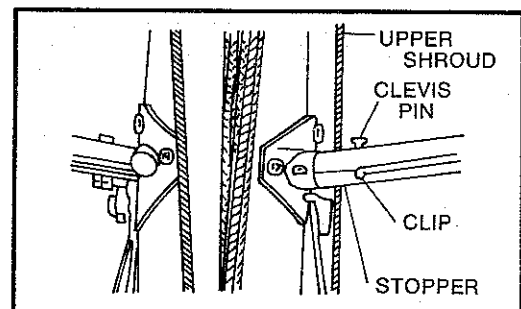
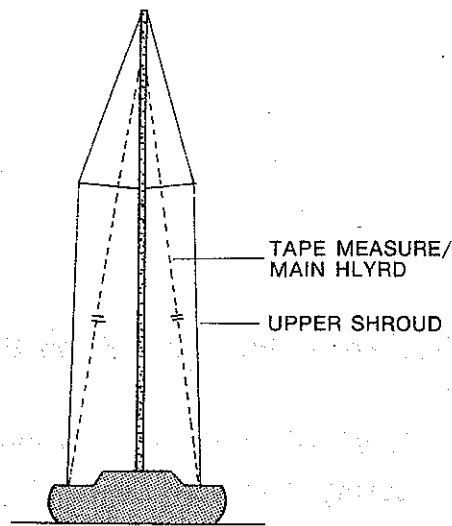

Fig. 8
Fig. 15
Attach the stoppers to the upper shrouds temporarily. Pull the upper shrouds along the mast and set the stoppers so as their top come to the same level of the top side of the spreaders at the mast (see Fig. 8).
Use the main halyard or a steel tape measure to check the athwartship alignment (see Fig. 15).
Adjust the shrouds so the masthead is equidistant from each chainplate (see Fig. 15).
Main halyard, jib halyard and spinnaker pole topping lift are led over the sheaves at the masthead, led through inside of the mast and come out through the sheaves around the foot of it. The main halyard comes out through the port forward sheave, the jib halyard from the port aft sheave and spinnaker pole topping lift from the starboard side. Lead them as shown in Fig. 15. To lead them through under the companion hatch case, small staffs are attached. Tie a figure 8 knot on the bitter end of each tail.
- 3) At the bitter end make a figure 8 stopping knot. The 2nd and the 3rd reef lines will be arranged similarly.